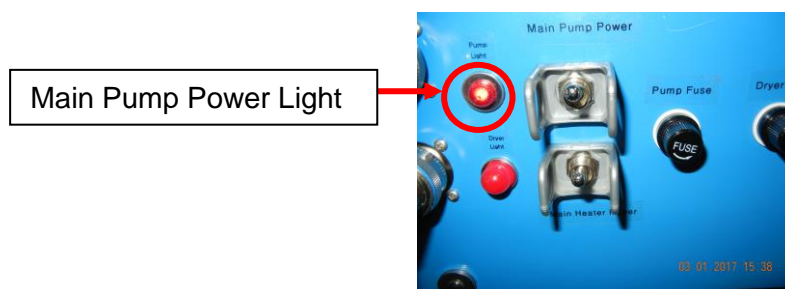

Figure 10: Main Pump Power Switch
- 4.3 Flip Main Pump Power switch on Water Recovery System (WRS) (located to right of SPE System) to "ON" (see Figure 10).